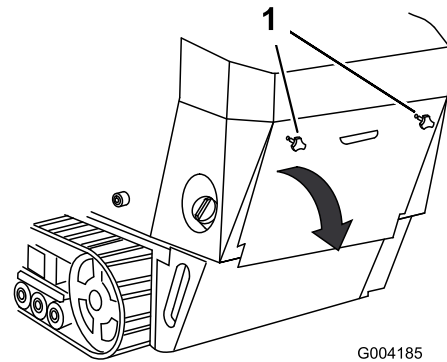

Figure 29
1. Unscrew the 2 hand knobs securing the rear-access cover to the machine (Figure 29).
2. Tilt the rear-access cover down and remove it to access the internal components (Figure 29).